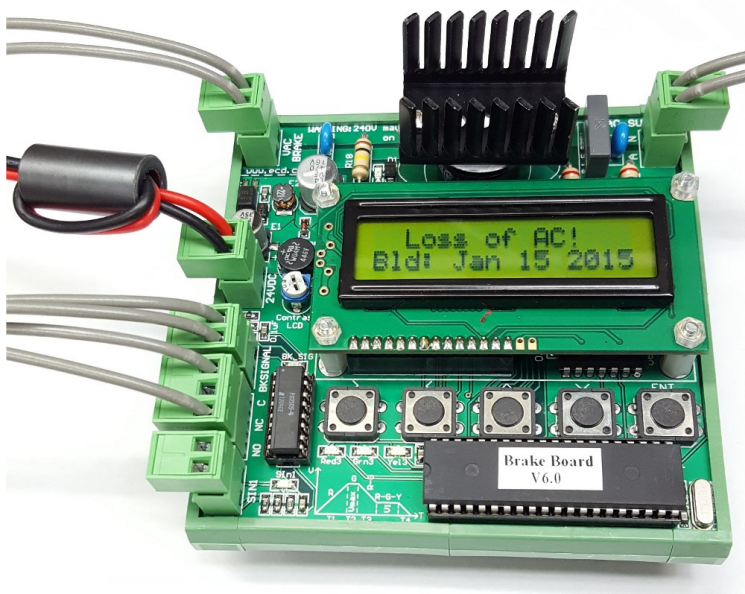

Figure 2
- Loss of AC SUPPLY. “Loss of AC!” will be displayed on the LCD. (No AC voltage at AC SUPPLY, Fig. 2). Brake board will remain inoperative until AC SUPPLY restored.